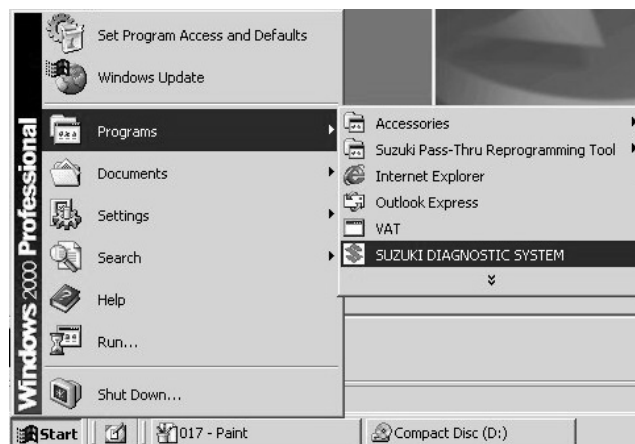

Fig.30
2. Click the Start button, point to “Programs”, and click “SUZUKI DIAGNOSTIC SYSTEM” from the displayed menu. (Fig.30)